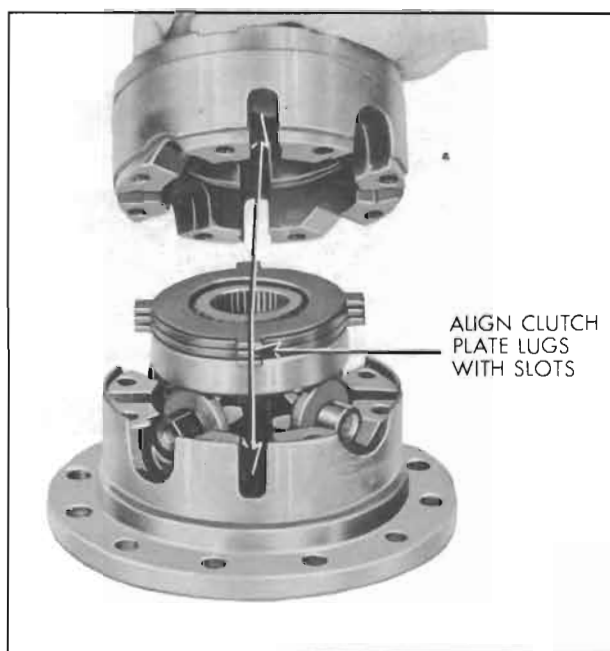

Figure 6-41—Installing Differential Parts
6. Install side gears, pinion gears, and cross shafts as shown in Figure 6-41.